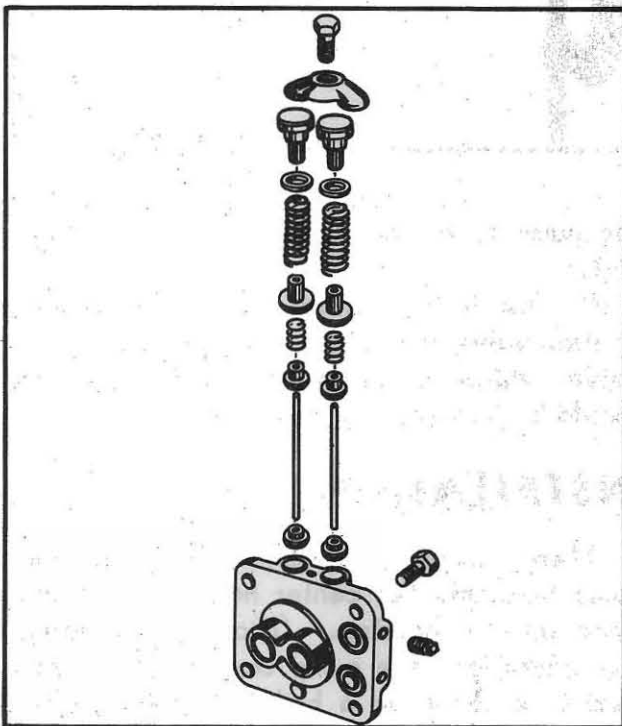

Fig. 307
- c. Pick up the valve chamber in one hand and the above assembly in the other. With the openings to the valve chamber slightly below horizontal, insert and seat the valve guide socket into the bottom of the valve chamber. Insert other guide assembly in similar manner, see Fig. 307.